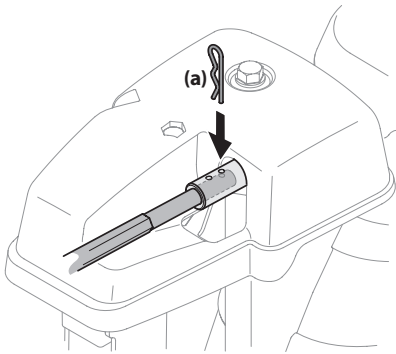

Figure 2-33
- Push chute control rod toward control panel until hole in rod lines up with hole in chute control input closest to chute control head and insert hairpin clip (a) removed in Step 1. See Figure 2-33.